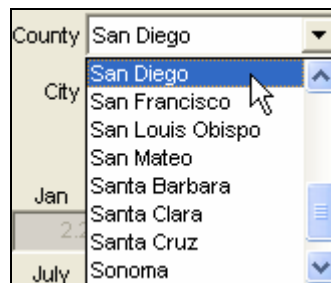

Figure 16.4.12B
- Next use the drop down arrow for the **County** (Figure 16.4.12B).